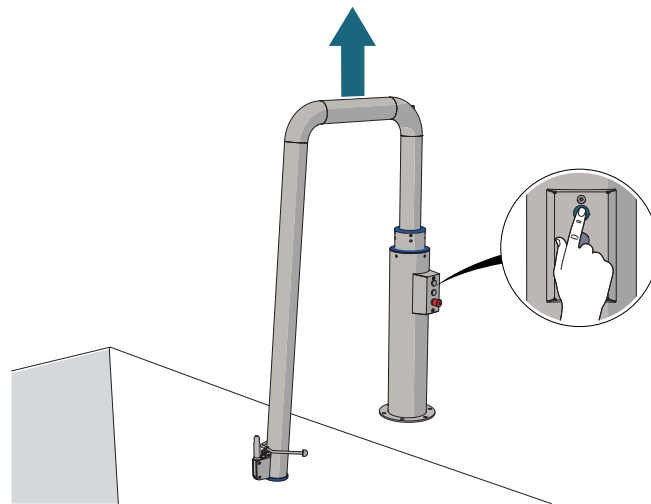

Figure 3 - Operating the pool lift upwards
1. Press and hold the control button with the arrow pointing up (see figure 3).